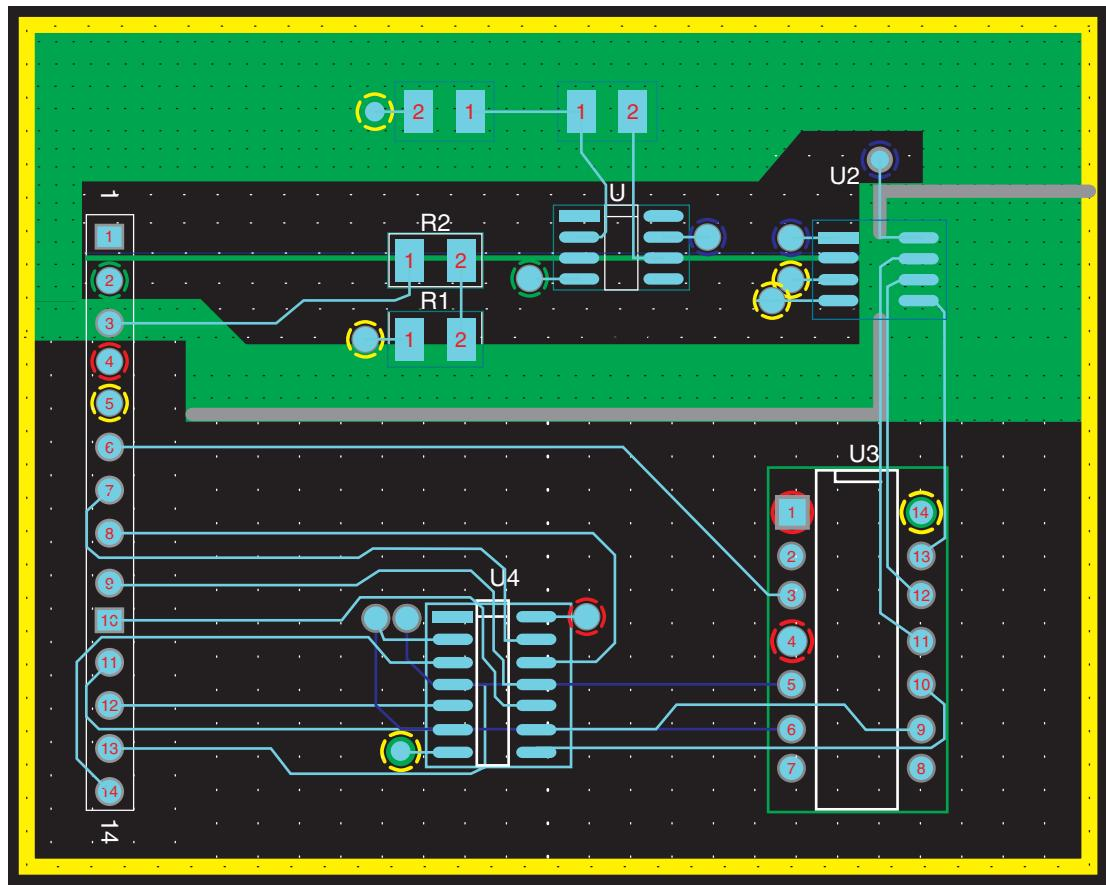

Figure 9-77 The routed board generated by the Layout autorouter.
**To run the autorouter**, select **Autoroute → Board** from the **Auto** menu. An example of a routed board is shown in Fig. 9-77.
As in the earlier example, a postrouting inspection is performed after autorouting to look for problem areas, and offending traces are unrouted and then rerouted. Figure 9-77 shows a couple of areas that could use some work. The first area is the clock and data traces that run
As long as a trace has a through-hole or fan-out via on each of its ends, you can easily change which layer the trace is on without having to rip it up. **To change the layer of a trace**, select one of the manual routing tools, hold down the **Ctrl** key on your keyboard, and select the trace that you want to move. Select the destination layer by pressing the appropriate number on your keyboard or selecting the layer from the layer selection list on the toolbar. So, for example, to change one of the traces on the INNER2 layer (the blue layer) in Fig. 9-77 to the BOTTOM layer, select the trace and press the “2” key on your keyboard. The trace is automatically moved to the BOTTOM layer but is otherwise unaffected. You can then move or otherwise edit the trace as desired using one of the manual routing tools. Figure 9-78 shows the board after moving traces from the INNER2 layer to the BOTTOM layer and cleaning up some of the other traces.